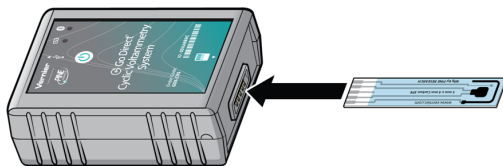

Figure 2
4. Insert a screen-printed electrode (SPE) into the SPE connector on the Cyclic Voltammetry System (see Figure 2).